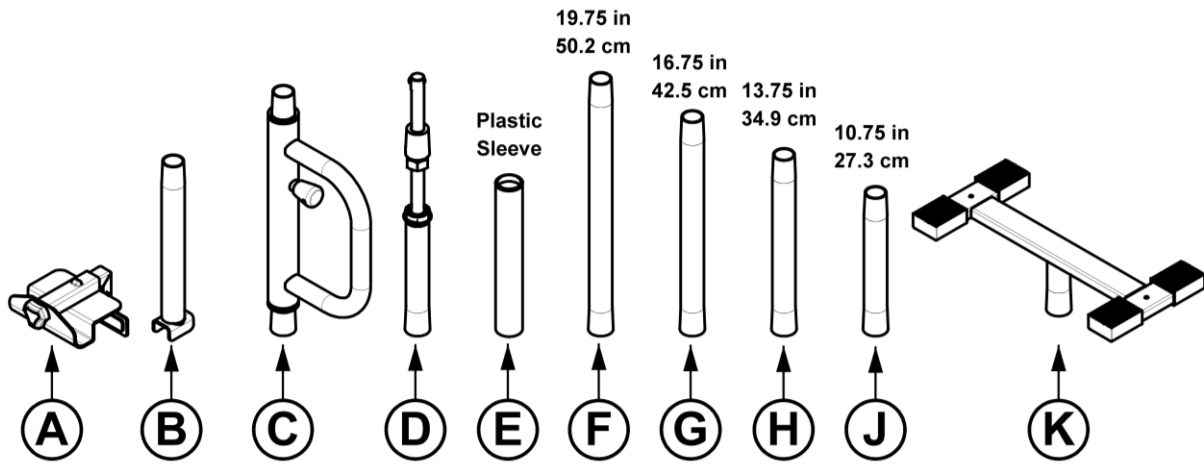

FIGURE 1
1. Remove product from box/packaging and identify all parts as shown in *FIGURE 1*.